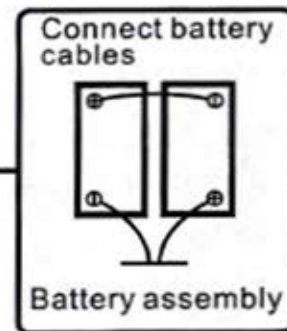

fig.4
3. Connect the batteries with suitable cable (fig.4): connect the cathode to the anode as shown. And the left two cables connect to the battery socket.